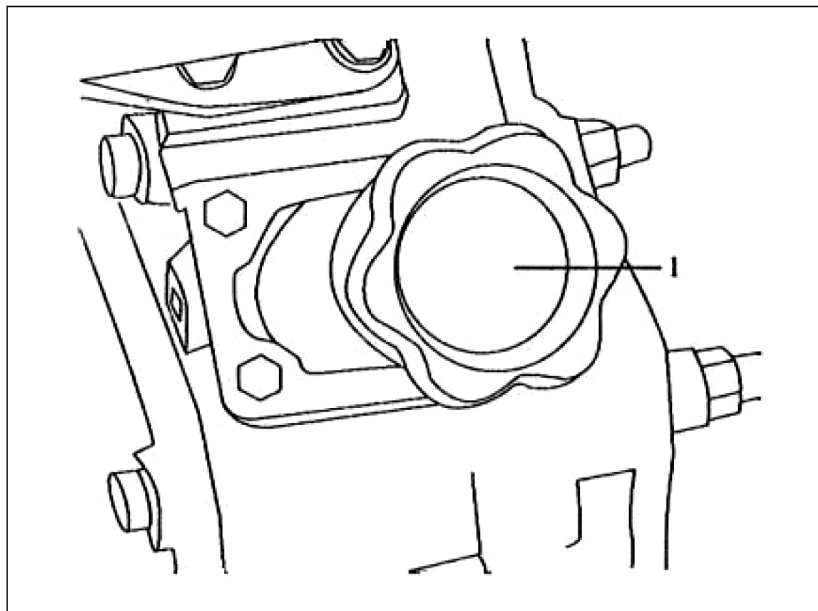

Figure 5-1
- Open the filler cap 1 in Fig. 5-1 and fill in oil. The oil must be filtered through a filter mesh.